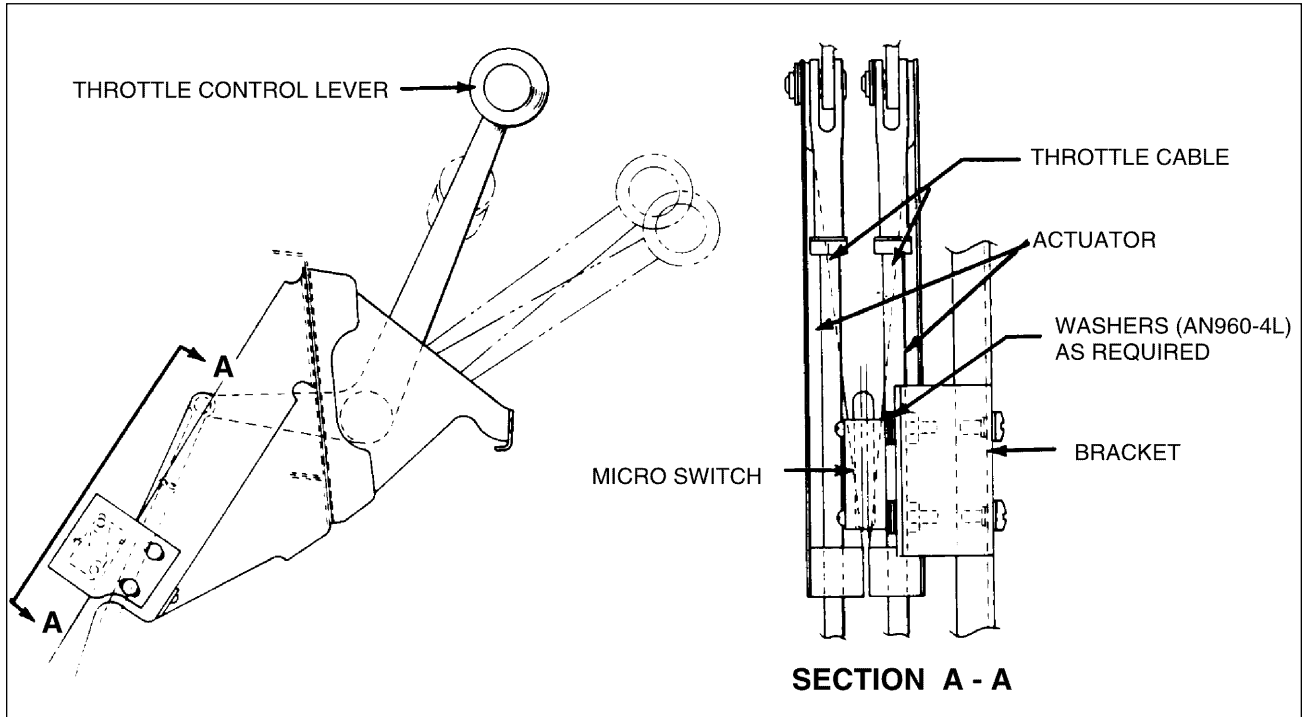

Figure 32-25. Throttle Warning Switch
2. **GEAR WARNING THROTTLE SWITCH** (Refer to Figure 32-25.)
- (1) With the aid of a qualified pilot, fly the airplane to an elevation of 1000 feet above the ground and come to approach speed with propellers set for high rpm. Retard the throttles to 14 ± 2 inches of manifold pressure and mark the quadrant cover adjacent to the throttle levers in such a manner so that the levers can be returned to the same position after the airplane is landed and the engines shut down.
- (2) Place the airplane on jacks and retract the landing gear.
- (3) Reposition the throttle levers at the location which gave the 14 ± 2 inches of manifold pressure per step 1.
- (4) With the master switch turned ON, loosen the two mounting screws securing the micro switch to the bracket. Move the switch in the direction necessary to make the warning horn operate and tighten the mounting screws
- (5) With the warning horn operating, lower the landing gear to determine whether the horn ceases to operate when the gear are down and locked. Turn OFF master switch and remove airplane from jacks.
- (6) Flight test the airplane to ensure proper operation of the gear warning horn with the gear up and power reduced below 14 ± 2 inches of manifold pressure.
B. **REPLACEMENT** (Refer to Figure 32-25.)
- (1) Determine and take note of how many washers are between the microswitch and the bracket.
- (2) Disconnect electrical wires and mark microswitch position.
- (3) Remove screws and install new switch in same position making sure to use same amount of washers.